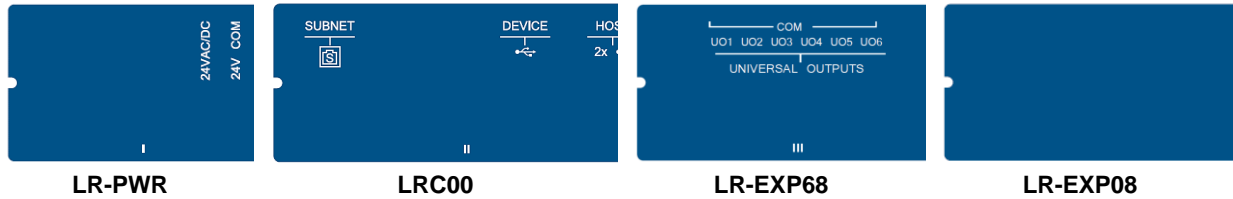
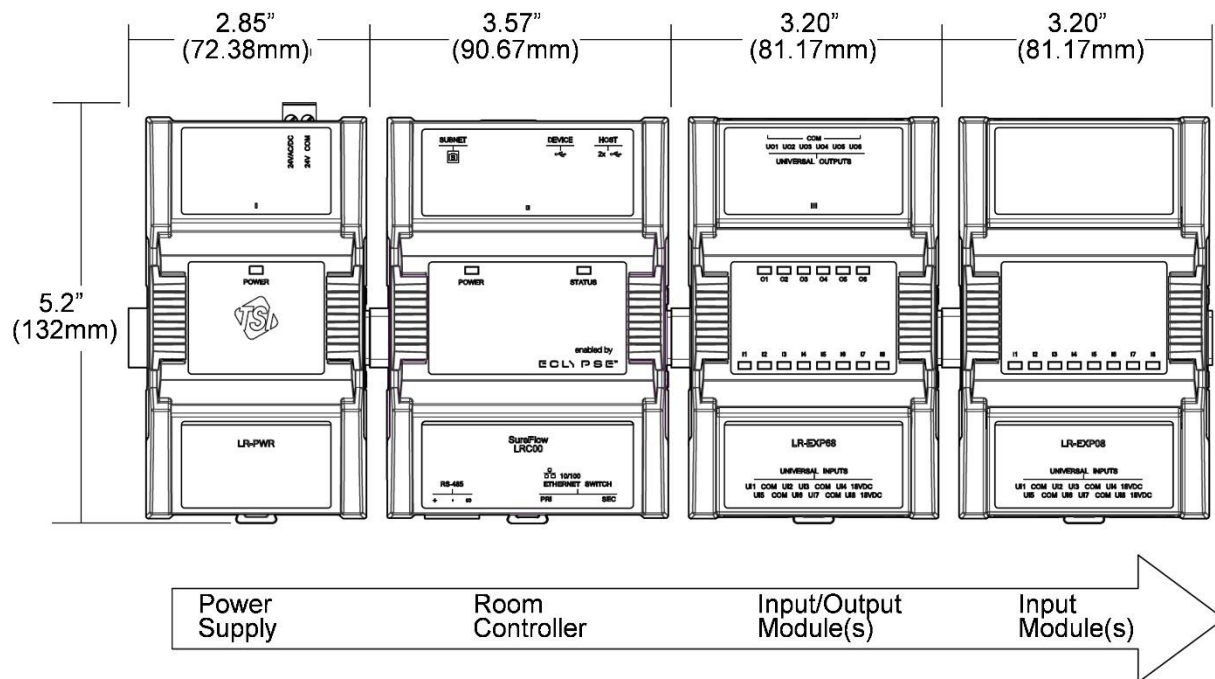

Figure 5: Module Top Panel Labels Denoting Assembly Order
Figure 6: Assembly Order
3. Set the pieces in the correct mounting order (Figure 5) and position (Figure 6).